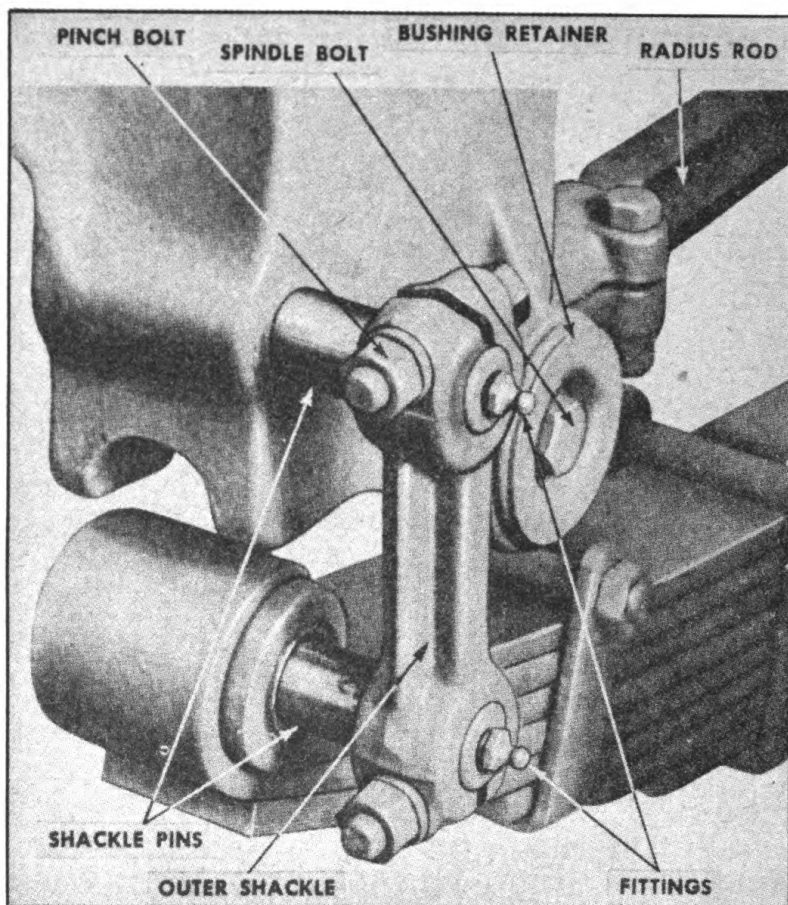

FIGURE 55. REMOVING SHACKLE AND PIN ASSEMBLY
(4) Remove inner shackle and drive upper and lower shackle bolt out as an assembly (Figure 55).
(5) Place a jack between frame and axle to hold weight of the spring off hanger.